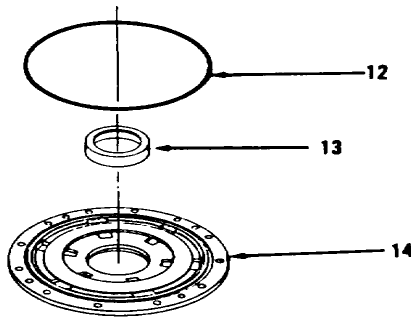

Figure 14-151.
6. Remove items 12 thru 14 as an assembly from housing (27) and place on wood blocks.
9. Remove seal (12) and cup (13) from cover (14, Figure 14-151). Discard seal (12).